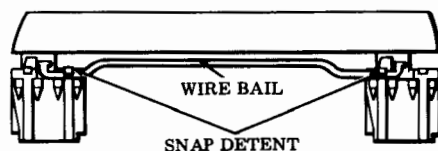

Fig. 3—Wire Bail Removal
- (d) Remove the wire bail from the left and right spacebar guides (snaps in and out) (Fig. 3).